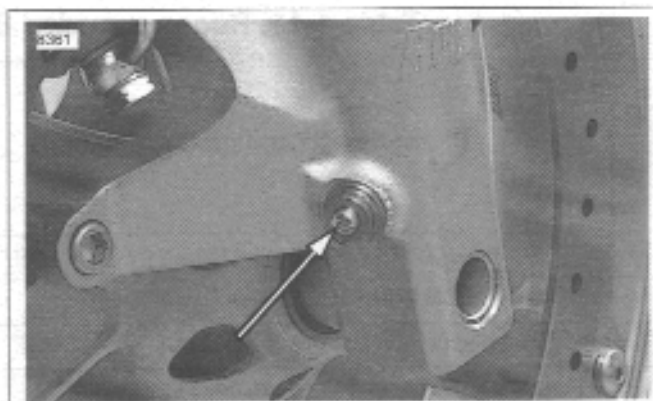

Figure 1-33. Front Fork Compression Damping Adjuster
1. See Figure 1-33. Using a screwdriver, turn the slotted dial clockwise until it stops. This is the maximum compression damping setting.